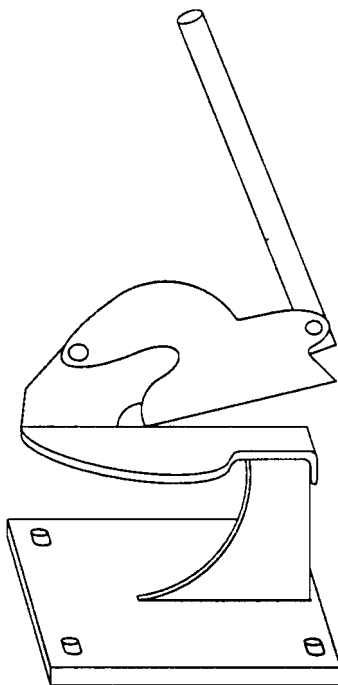

Figure 17 - Manual De-Lugging Shears
5.3.16 Manual De-Lugging Shears (see Figure 17)